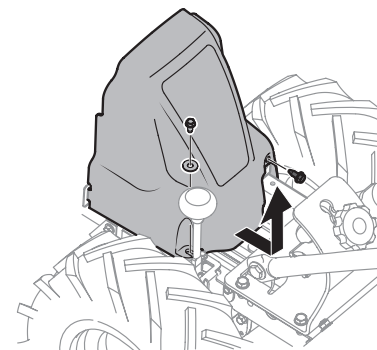

Figure 21
3. Remove the hex washer screw (1/4-20 x .500) and flat washer (.28 x .74 x .063) from the left side of the belt cover and the hex washer screw (1/4-20 x .500) from the right side of the belt cover. Remove the belt cover. See Figure 21.